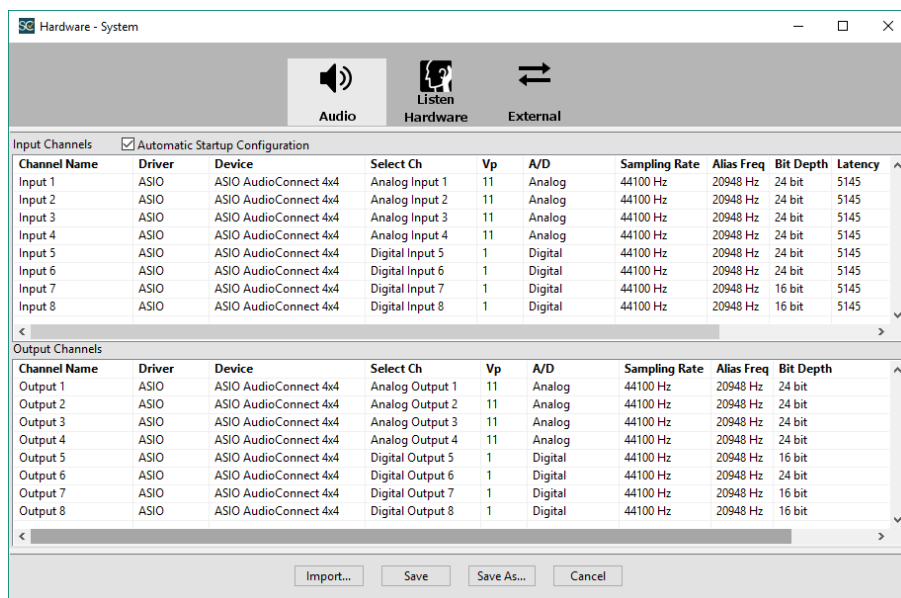

Figure 2-1: Windows Hardware Editor
- **Channel Name** - Default naming is Input 1 to 4, Output 1 to 4 as shown in Figure 2-1
The Hardware Editor in Figure 2-1 shows the general settings for the Input and Output Vp values. ASIO buffer and USB Streaming mode are set in the ASIO Control Panel which is launched by Right Clicking on a channel name and selecting **ASIO Control Panel**.
The sample rate of AudioConnect 4x4 will automatically update to the rate set in the SoundCheck Hardware Editor (see Figure 2-1).